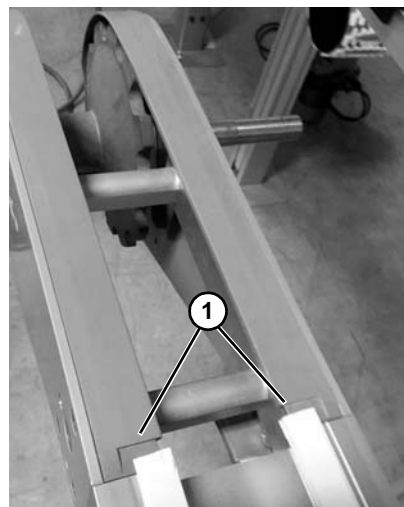

Figure 37
- Allow 5 mm expansion gaps where slide rails end at drive tail top side, idler tail return side, and wheel corner inner rail transitions (**Figure 37, item 1**).